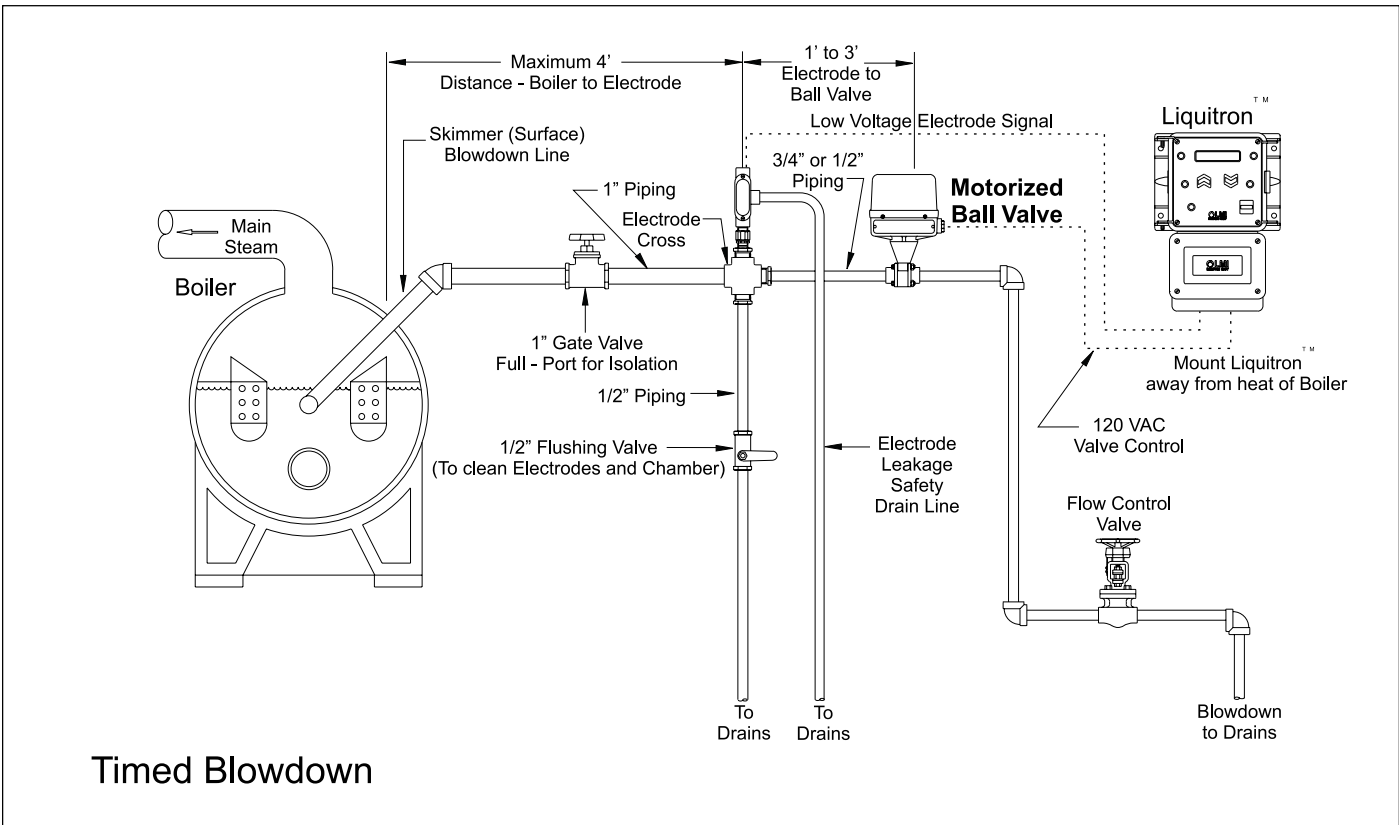

Figure 7: Timed Sample
1. Check that the unit is installed as shown in Figure 7 Timed Sample on page 30.